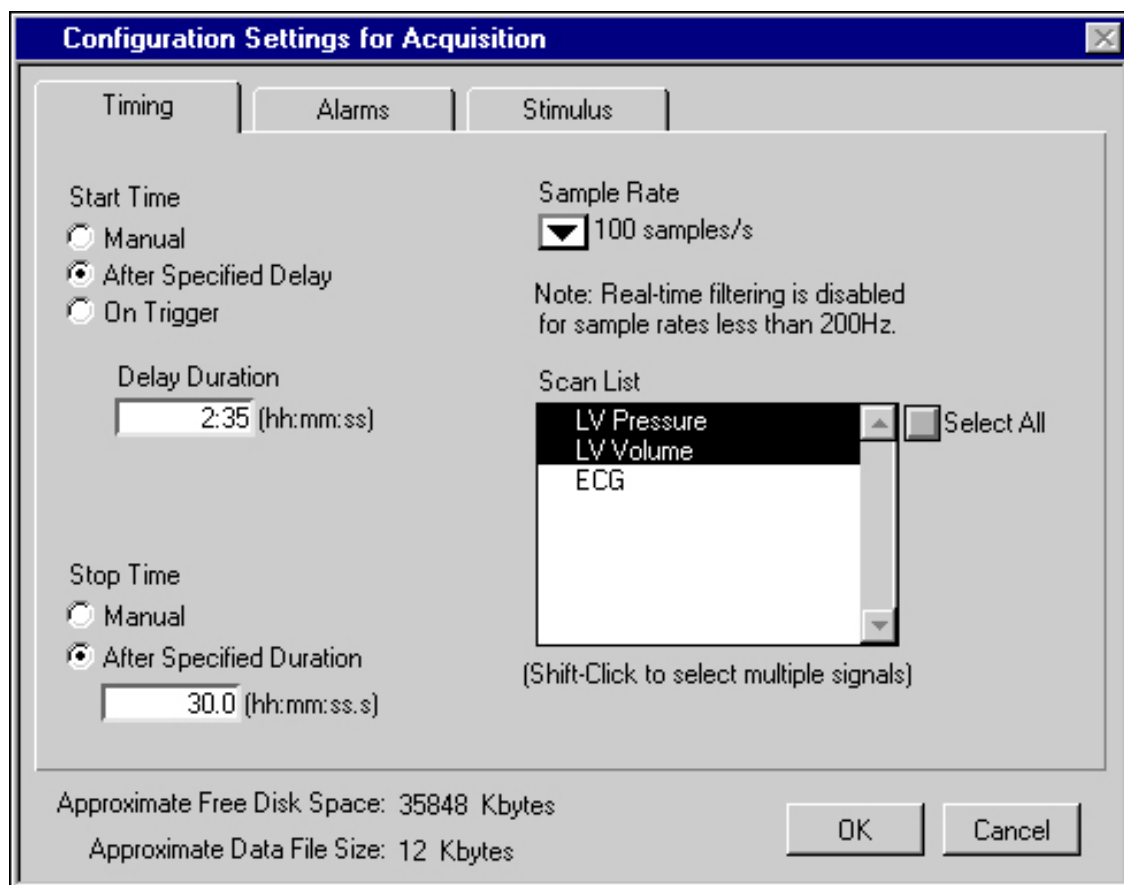

Figure B-6. Setting Timing in the Configuration Settings for Acquisition Dialog Box
2. Select **Configure»Settings**, then select the Timing tab in the dialog box that appears. Figure B-6 shows how you need to set up the Timing tab.